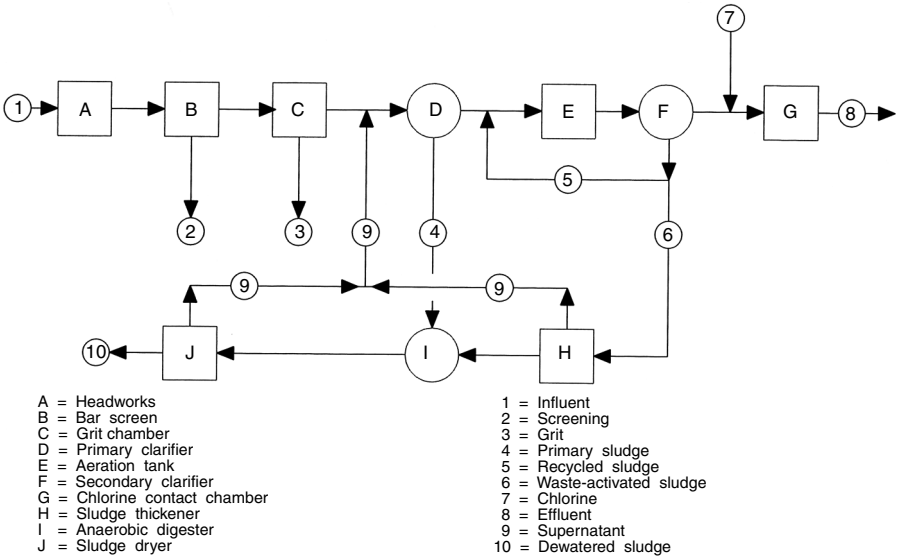

FIGURE T-3 Wastewater treatment plant.
**Treatment plant** An important component of water supply or wastewater disposal systems; contains a number of units and processes to produce a finished water or a wastewater effluent of a specified quality. See Figure T-3.